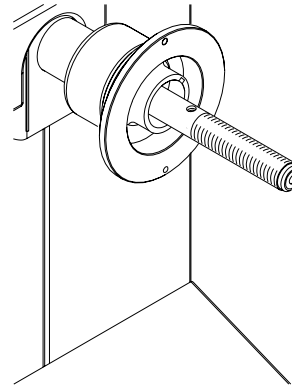

Figure 7
A. Mount the threaded shaft onto the arbor of the balancer. Tighten firmly using the supplied fastening rod. (Fig.7).